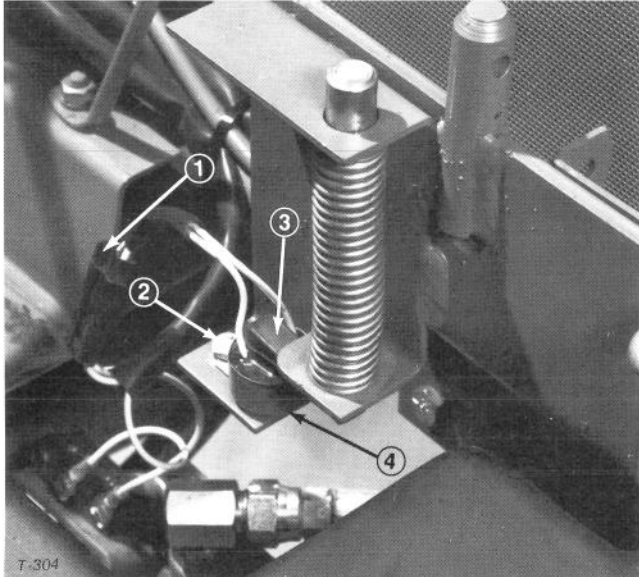

Figure 39
2. Remove instrument cover, disconnect negative battery cable from battery and separate wire harness connectors (Fig. 39). Remove capscrew and locknut (Fig. 39) and lift switch up to disengage locating pin on bottom of switch from hole in mounting bracket.
3. To install new switch, set it on mounting bracket (Fig. 39) and assure locating pin on bottom of switch fits into hole in bracket. Secure switch in place with capscrew and locknut.